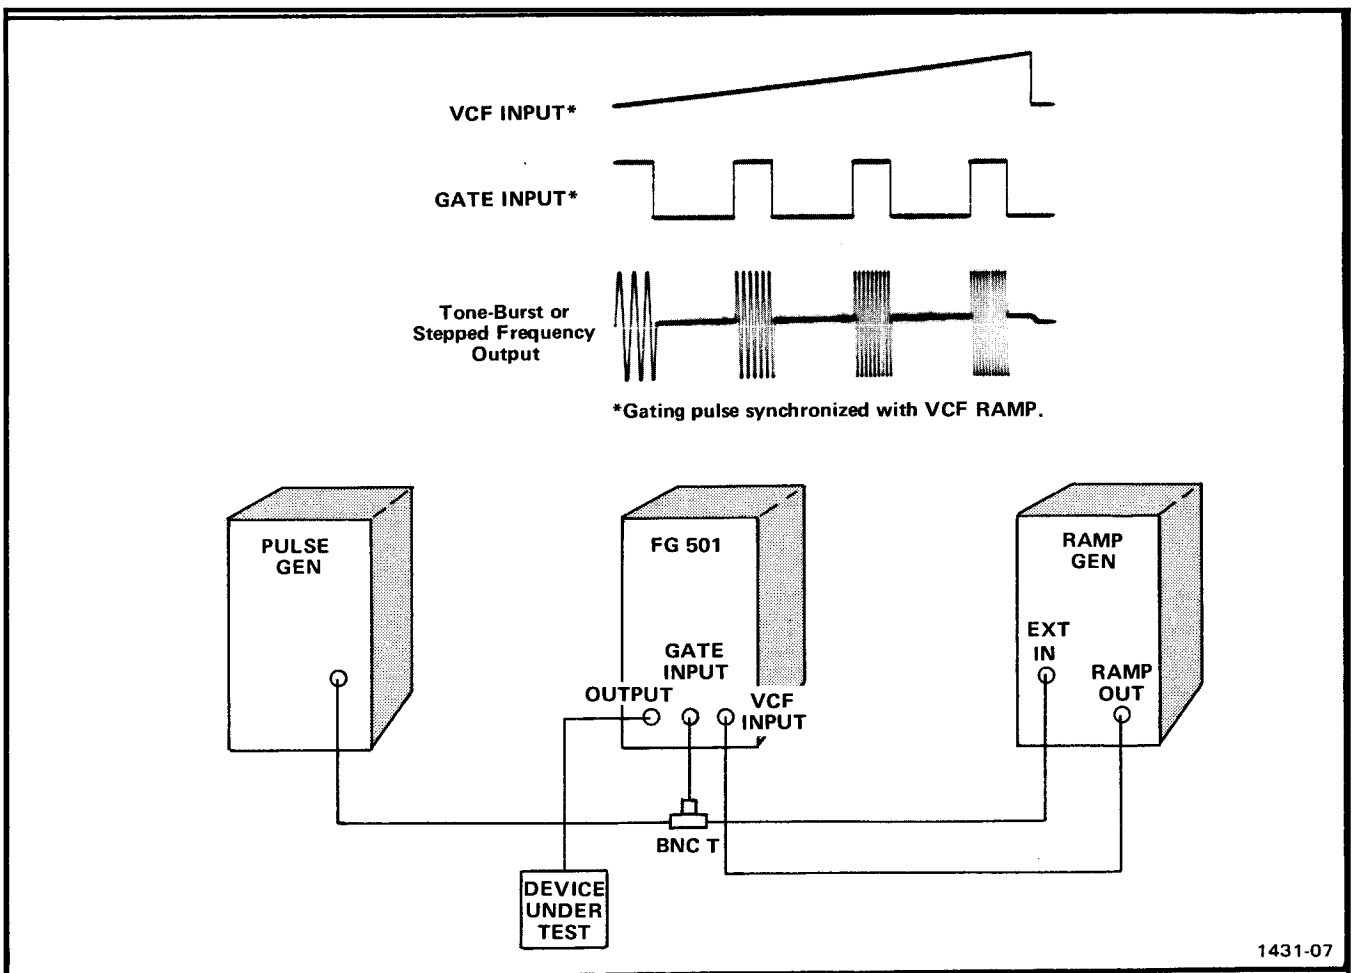

Fig. 1-10. Tone-burst generation or stepped frequency multiplication.
1. Connect the equipment as shown in Fig. 1-10.